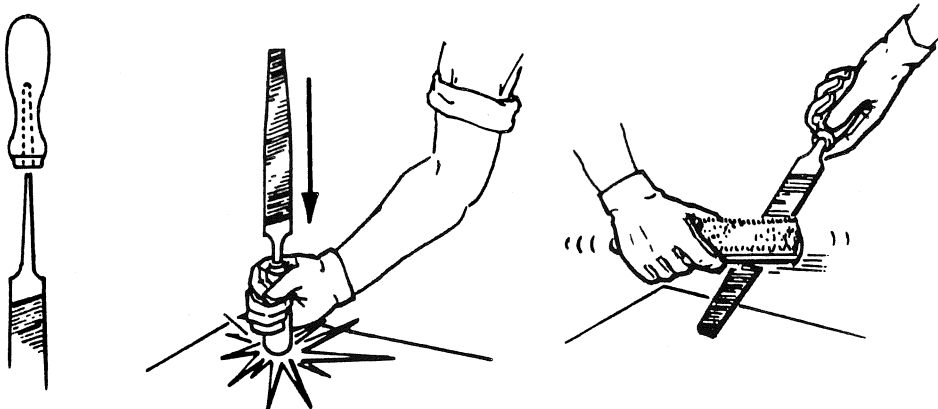
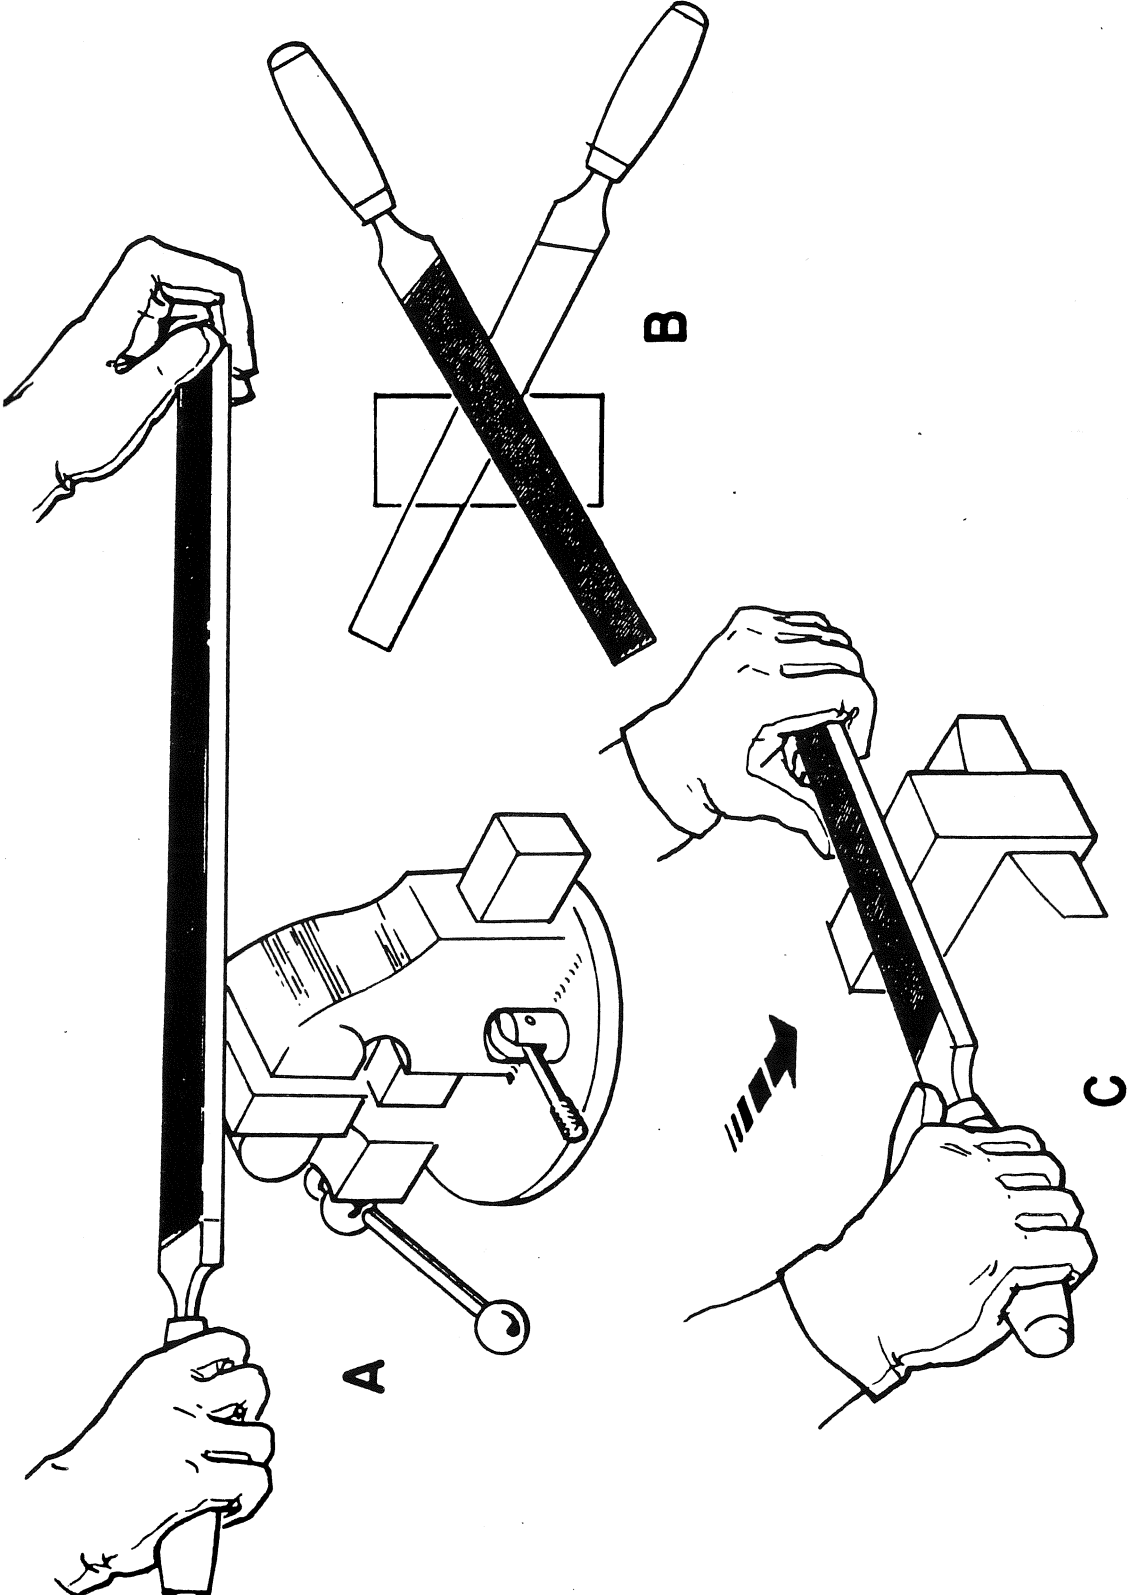

Figure 10.4. Use and Care of Files
Figure 10.5. Filing Techniques
2. To put a handle on a file; first, make sure the handle is the right size, and that the hole is large enough for the tang. Insert the tang into the hole in the handle then tap the back end of the handle on the bench. Make sure the handle is on straight. (See Figure 10.4.)
The teeth are set at an angle across the face of the file and slanting toward the tip of the file. (Figure 10.4.) On a single-cut file, the teeth are cut at an angle of 65 to 85 degrees to the centerline. On double-cut files the angle of the first set of teeth usually is 40 to 50 degrees and the crossing teeth 70 to 80 degrees. Proper methods of holding a file are shown in Figure 10.5.
5. Never use a file after the teeth become "choked" with particles of metal. Occasional bumping of the file against the bench will jar loose the filings which stick in the teeth. If the teeth get too loaded, it is best to clean the teeth with a file card. This is a brush with short, stiff, wire bristles. (See Figure 10.4.)